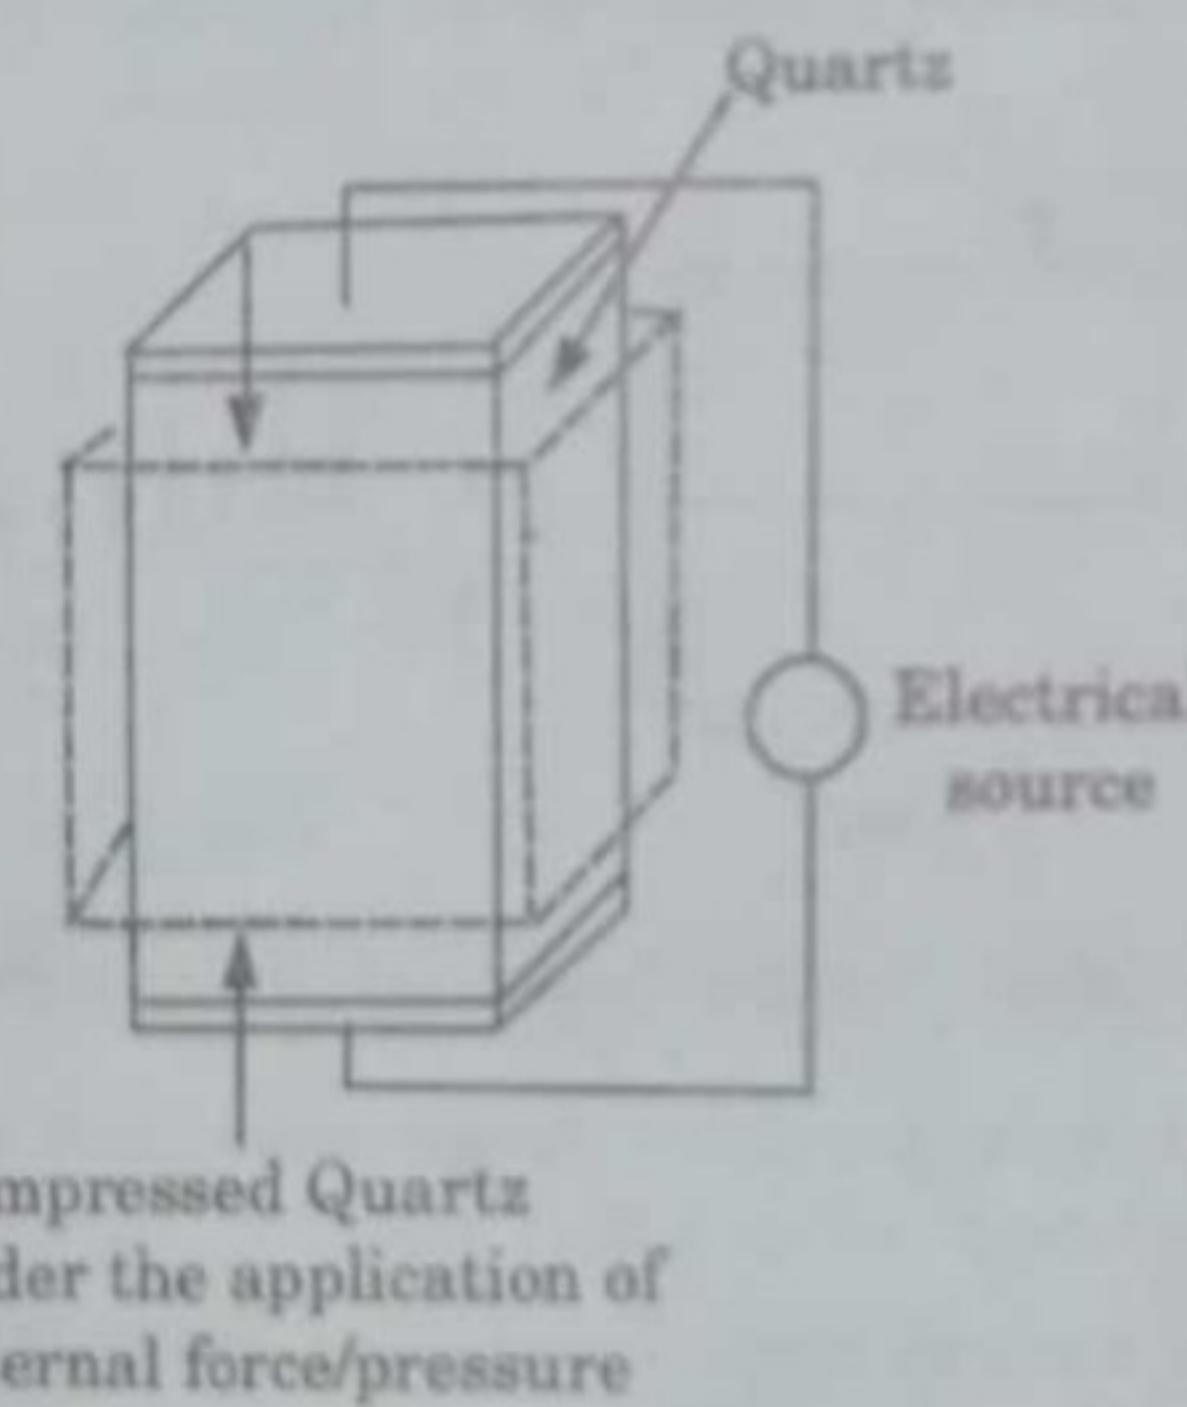

Fig. 1.25.1. Principle of working of piezoelectric sensor.
6. It contains piezoelectric ionic crystal materials such as Quartz as shown in Fig. 1.25.1. On application of force or pressure these materials get stretched or compressed.